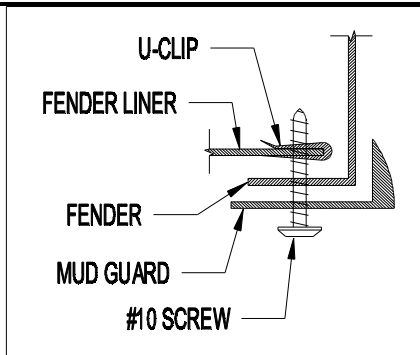

Figure 2
11. Pull liner out and install U-clips over liner at locations B and D (see figure 2), return liner to original position.